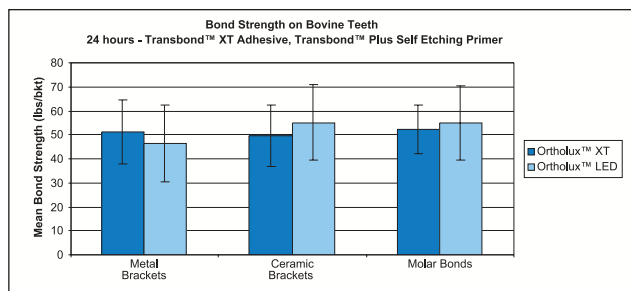

Figure 3
- A. Bond strengths are comparable—refer to Figure 3 for a comparison of bond strengths after 24 hours.